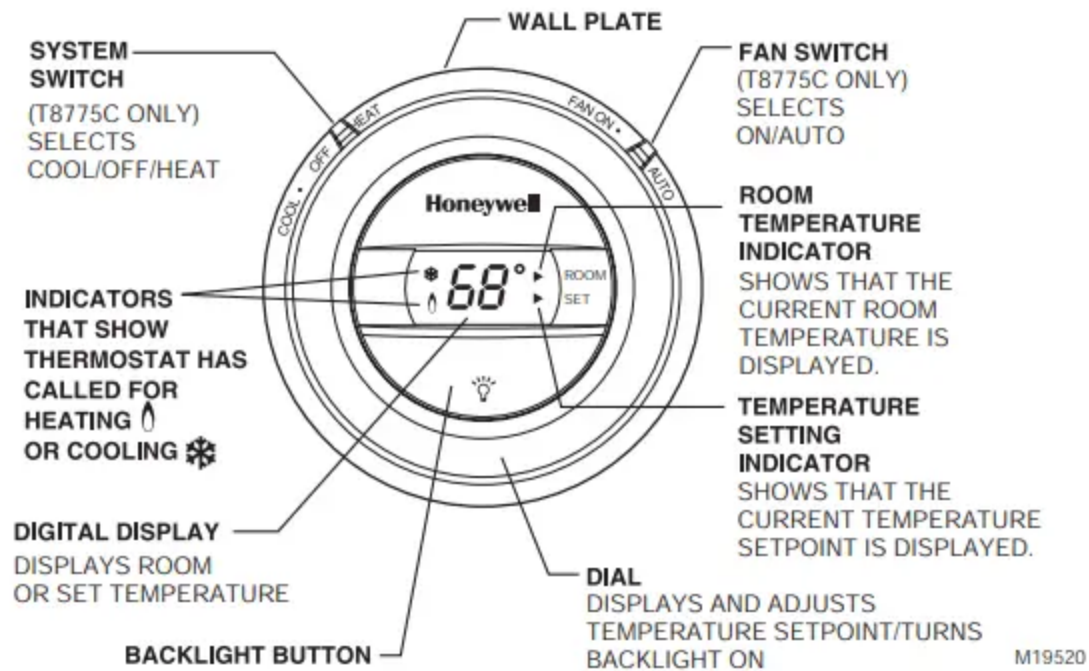

Fig. 10. T8775 Thermostat (features and operation).
- System and fan settings are controlled manually by using the switches located at the top of the thermostat. See Fig. 10.